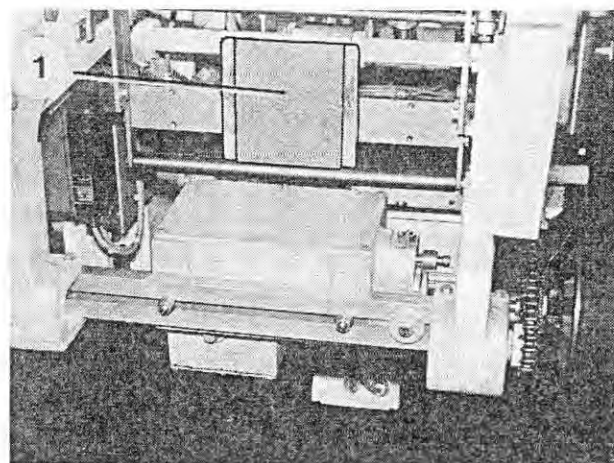

Fig. 232
3. Adjust the printing height by relocating the rods with the counterplate (Figure 232/1).